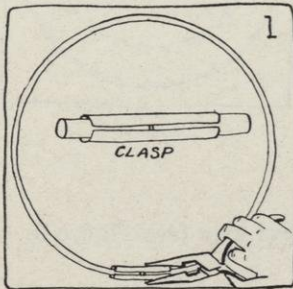

FIG. 1.
- e. Join the steel wire with a clasp by sticking the two ends into the middle of the clasp and closing the clasp tightly with your nippers (see Figure 1).